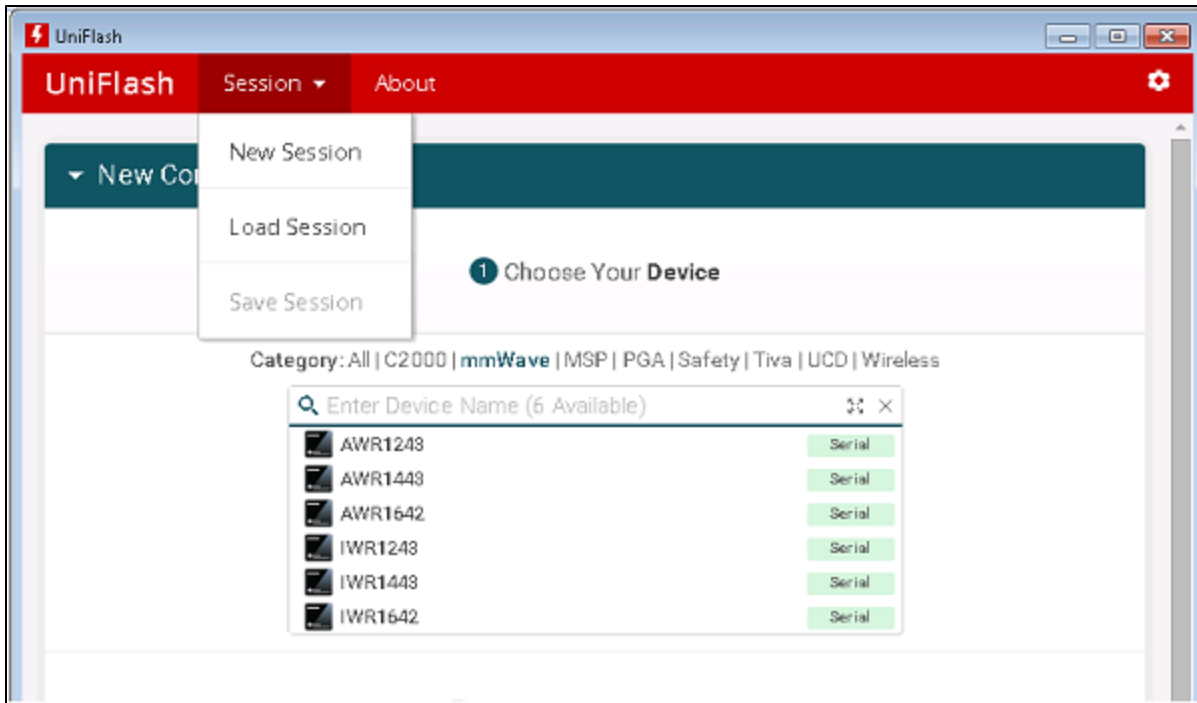
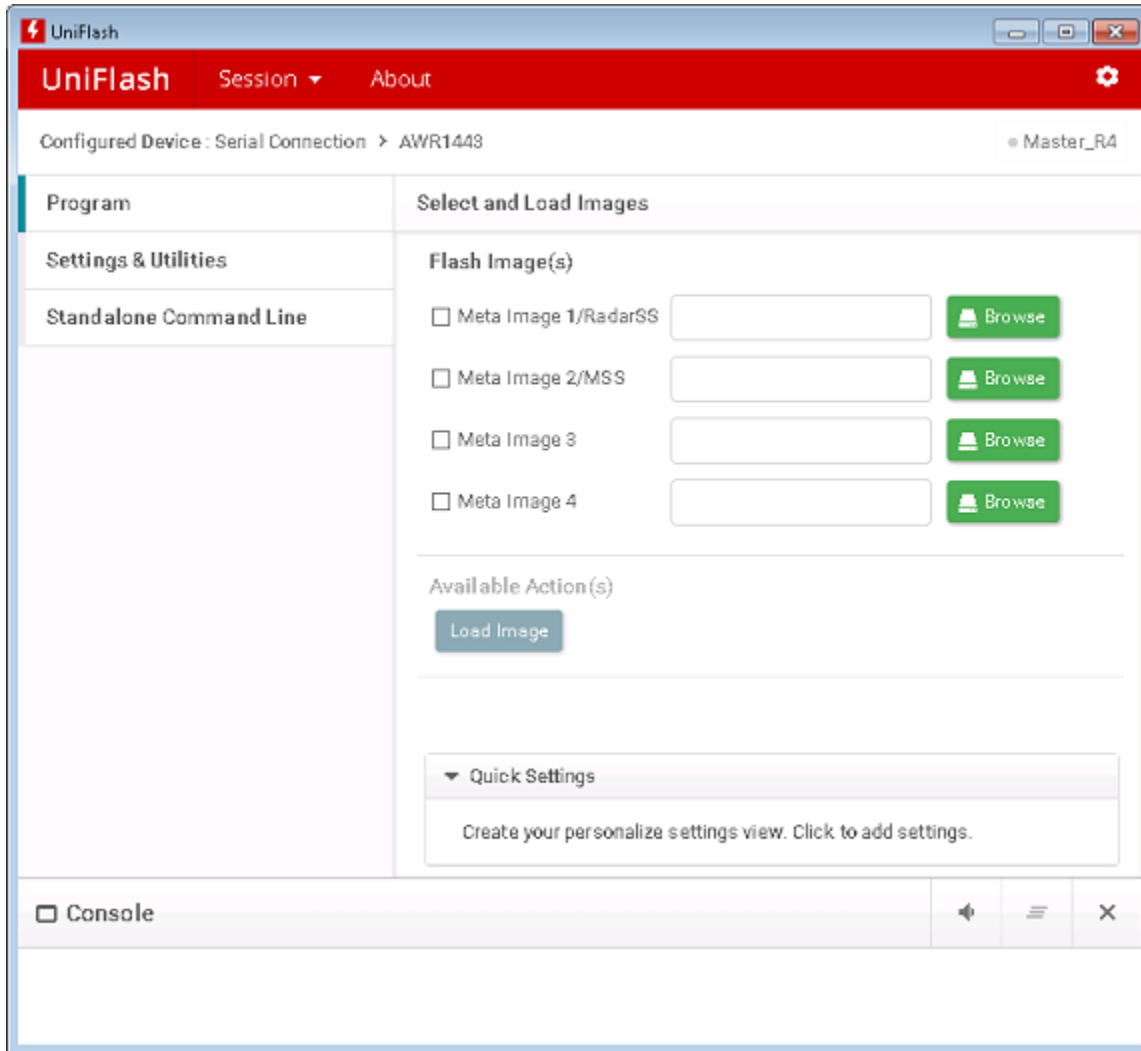

Figure 3: UniFlash Session menu for loading/saving sessions
Figure 4: UniFlash main screen Program view for AWR1443 device
- Figure 3: UniFlash Session menu for loading/saving sessions
- Figure 4: UniFlash main screen Program view for AWR1443 device
To load a previously saved session, click on the Session drop-down menu in the top-left corner of the tool screen, beside the UniFlash title, and select "Load Session" as shown in Figure 3. Locate the previously saved session file in the browsing dialog window and click Open. The tool will load the session configuration, presenting the Program view as shown in Figure 4 of the next section. Note that if the width of the tool is sufficiently narrowed, UniFlash will appear across the top of the red band at the top of the window. A drop-down menu will appear on the top right, from where Sessions can be loaded or saved.
After clicking the **Start** button, or loading a previous session, the main UniFlash screen shown in Figure 4 is displayed. The device AWR1443 was selected for the session shown.
Any status messages are provided in the Console window located at the bottom of the UniFlash tool main screen (see Figure 4). Errors during the flashing of the device will appear as messages in red text, and a red dialog box will be presented. Successfully completed operations are presented in green text.